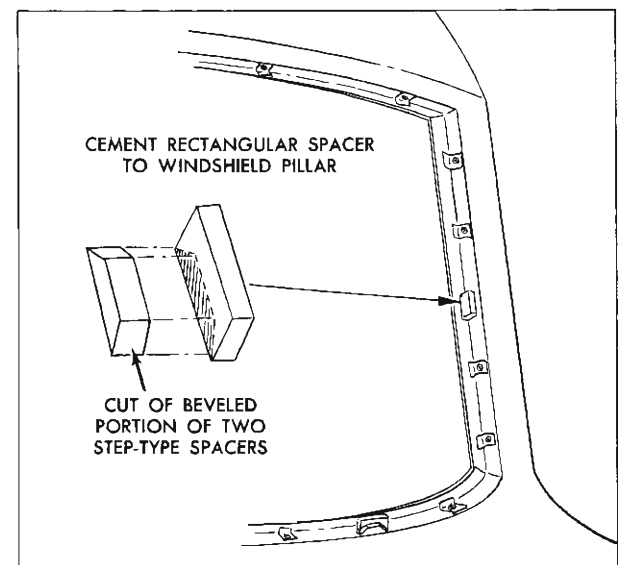

Fig. 11-18 Spacer Installation
2. Cut the beveled portion from two step-type spacers to make two rectangular spacers (Fig. 11-18). Using weatherstrip adhesive (neoprene-type), cement one rectangular spacer at each windshield pillar.